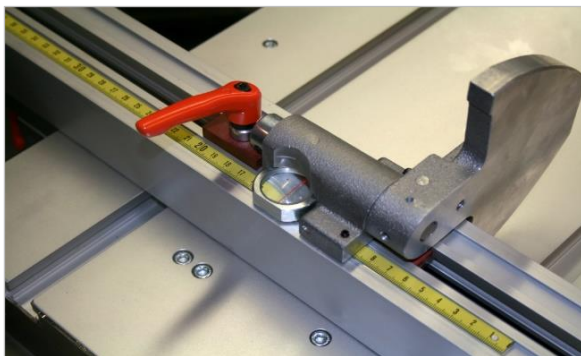

Figure 79: Flip stop (left to the saw blade)
- Move the flip stop on the rip fence to the dimension previously set on the cross-cut fence (⇒ Figure 79).